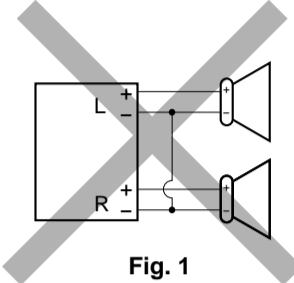
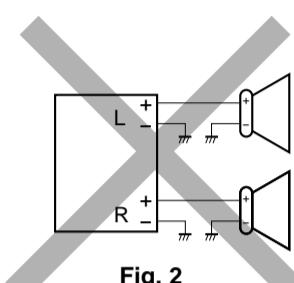

Fig. 1
Fig. 2
- If the speaker wiring in your car is as illustrated in Fig. 1 and Fig. 2 below, DO NOT connect the unit using that original speaker wiring. If you do, the unit will be seriously damaged. Redo the speaker wiring so that you can connect the unit to the speakers as illustrated in Fig. 3.